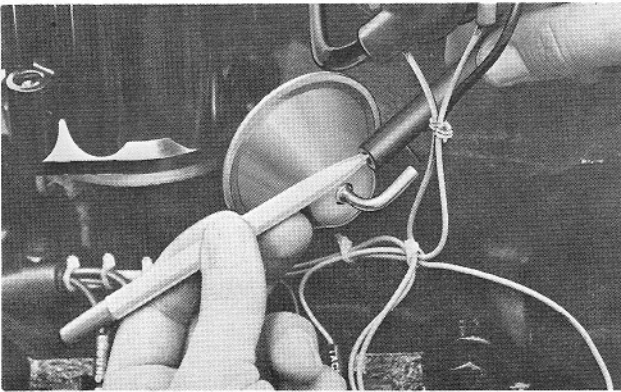

Figure 25
- A. Disconnect and plug vacuum hose leading to vacuum advance unit on distributor (Figure 25).